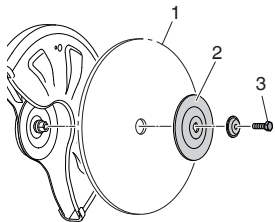

Fig. 6
1. Place the wheel (1) between the two flanges (2), and tighten the bolt (3) by hand. (**Fig. 6**)